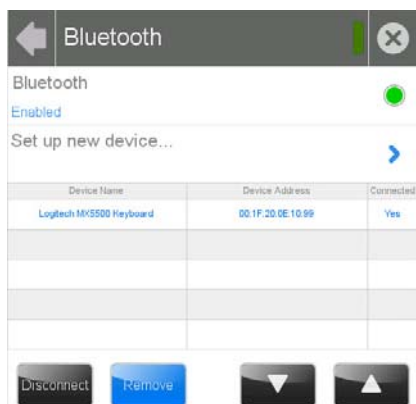

FIG. 34 Detected Bluetooth devices on the Bluetooth page
8. When the pairing is finished, the new device appears on the main *Bluetooth* page (FIG. 34).